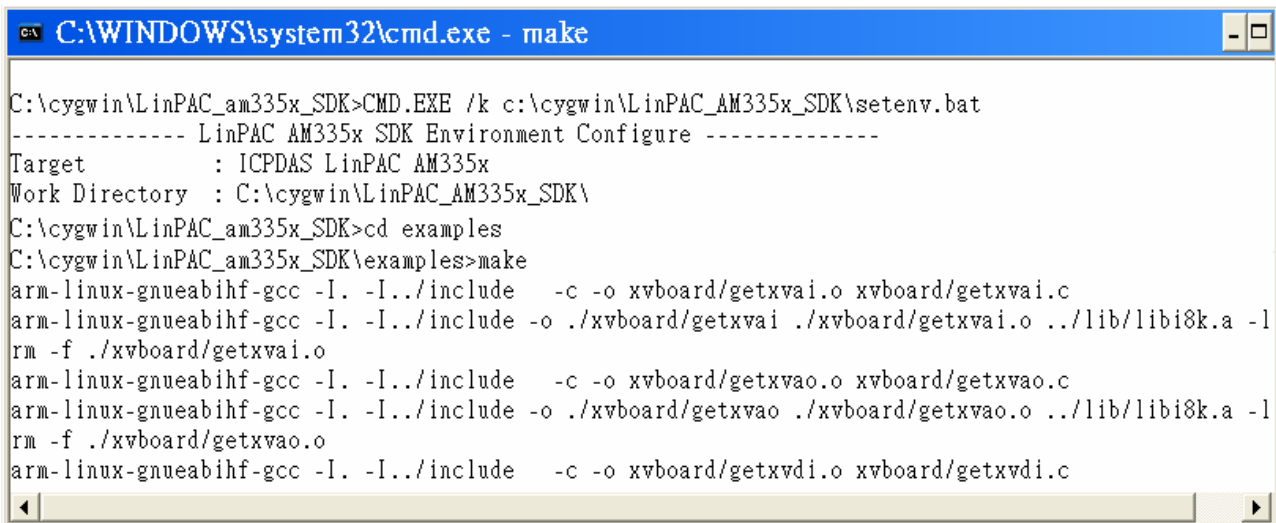

Fig. 2-17
- Type “**make**”. A Command Prompt window will then be displayed that allows applications for the LP-8x21 to be compiled. Refer to Fig. 2-17.